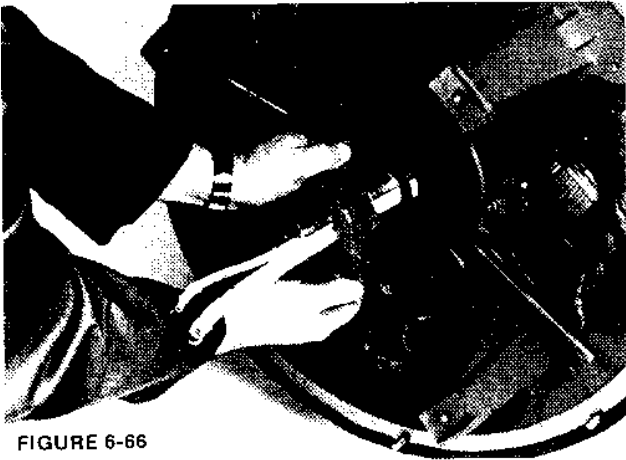

FIGURE 6-66
2. Slide PMG rotor onto shaft. (Figure 6-66.)